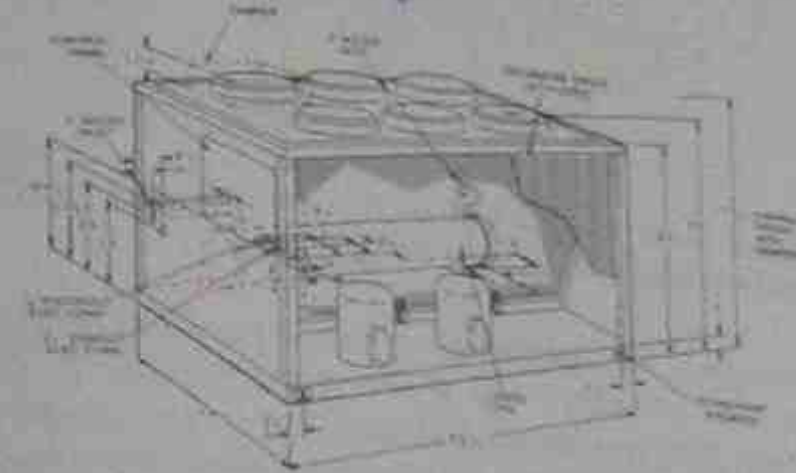

Figure 40-17. Water-to-air package unit. *Courtesy Trane Company*
4. Water to air describes the equipment in Figure 40-17. The unit absorbs heat from the water circuit and rejects the heat directly into the atmosphere. This equipment is used for larger commercial systems. *Note:* Air to air installations will be discussed in this book. The water portion of water installations is basically a plumbing job.